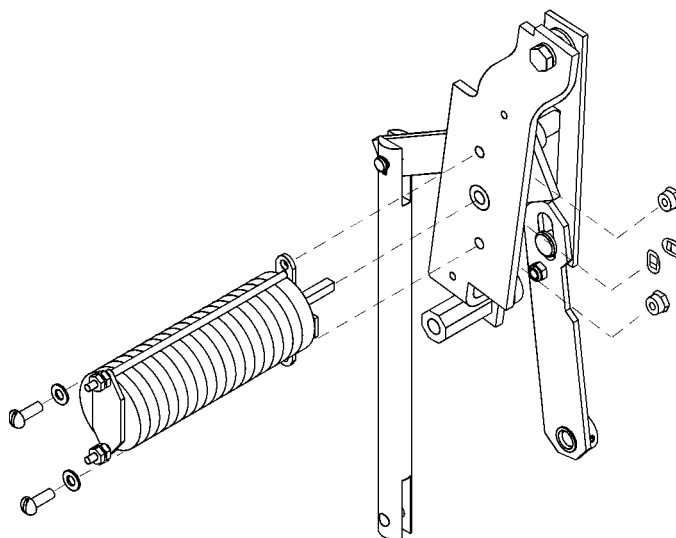
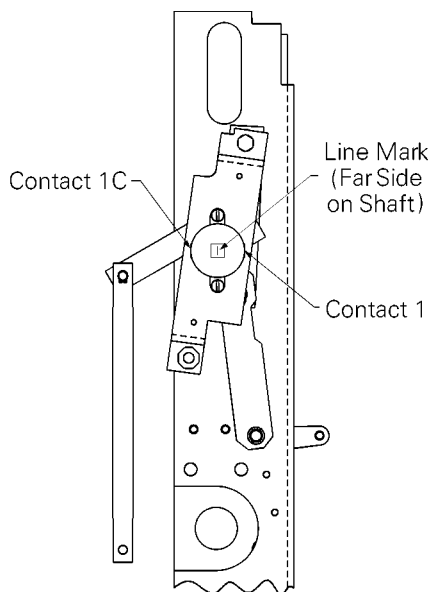
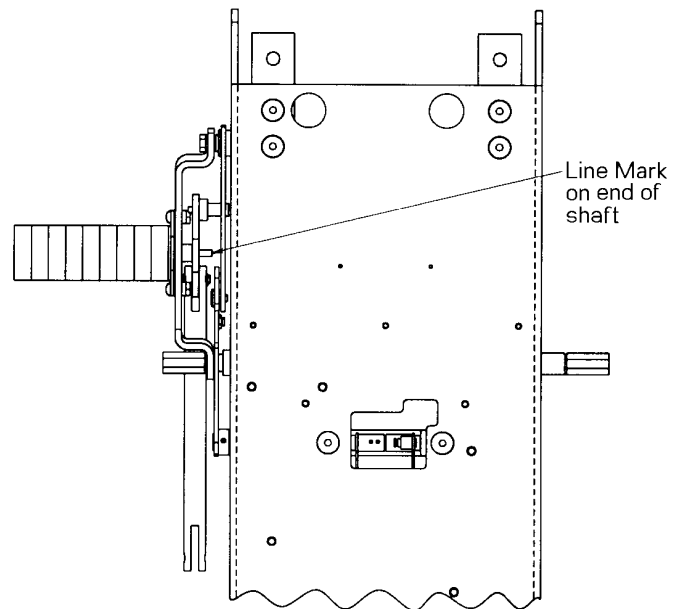

Figure 8-26. Removal or installation of the auxiliary switch.
Figure 8-27. Auxiliary switch aligned and installed on the breaker.
Figure 8-28. Front view of the installed auxiliary switch.
Use the following procedure to remove an auxiliary switch, as illustrated in Figure 8-26.
1. Insert the auxiliary switch into the breaker linkage as shown in Figure 8-26, so that the shaft forms the pivot for the linkage. The auxiliary switch must be aligned as shown in Figure 8-27, with the line scribed into the end of the shaft vertical and contacts 1 and 1C as shown. Verify that the breaker is OPEN during this alignment.
2. Attach the two spring clips over the end of the shaft. The spring clips should be installed 90° degrees from each other. Secure the auxiliary switch with the two screws, flat washers, and nuts supplied, as shown in Figure 8-26. Figure 8-28 is a view of the installed auxiliary switch from the front of the breaker.